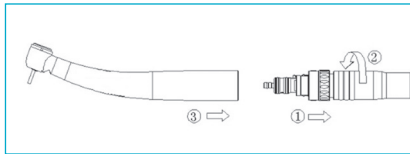

Fig. 6-11
- Screw the LED couplings onto the turbine hose (Fig.6-11⑩).
- Tighten the screw cap of the turbine hose hang-tightly (Fig.6-11②).
- Assemble the medical device accurately on the LED coupling until the coupling audibly locks in the medical device (Fig.6-11③).